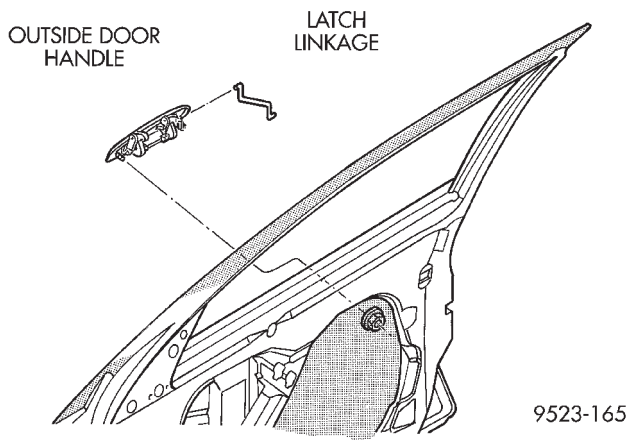

Fig. 31 Front Door Outside Handle
- (1) Remove door trim panel.
- (2) Close door glass.
- (3) Disconnect latch linkage from door latch.
- (4) Remove nuts holding door handle to outer door panel (Fig. 31).
- (5) Separate door handle from vehicle.